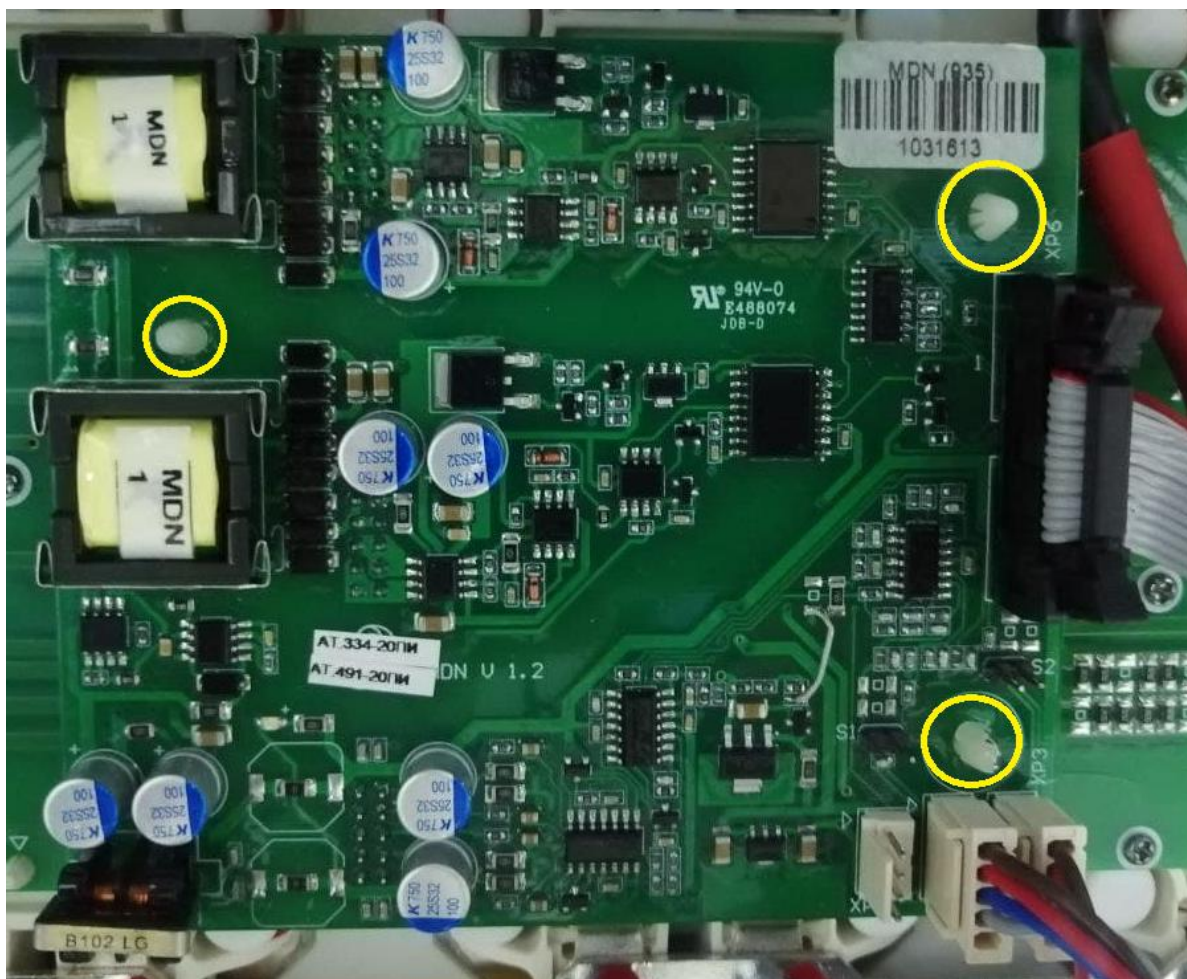

Figure 10 –MDN unit dismantling step
3. Compress the tendrils of the plastic clips and remove the block, which is shown at figure 10 using lineman's pliers.